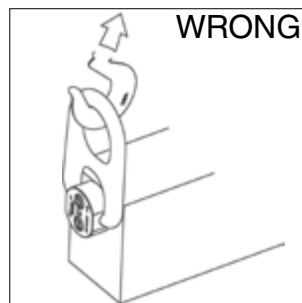
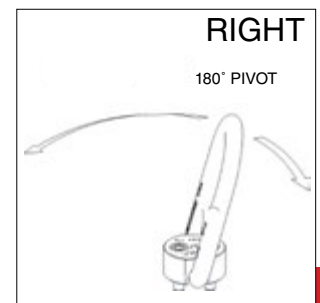

Figure 2
Figure 4
- Apply partial load and check proper pivot. Ensure load alignment is in the direction of pivot (Figure 4). There should be no interference between load (workpiece) and pivot hoist ring bail (Figure 2).
- Always ensure free movement of the bail. The bail should pivot 180 degrees (Figure 4).